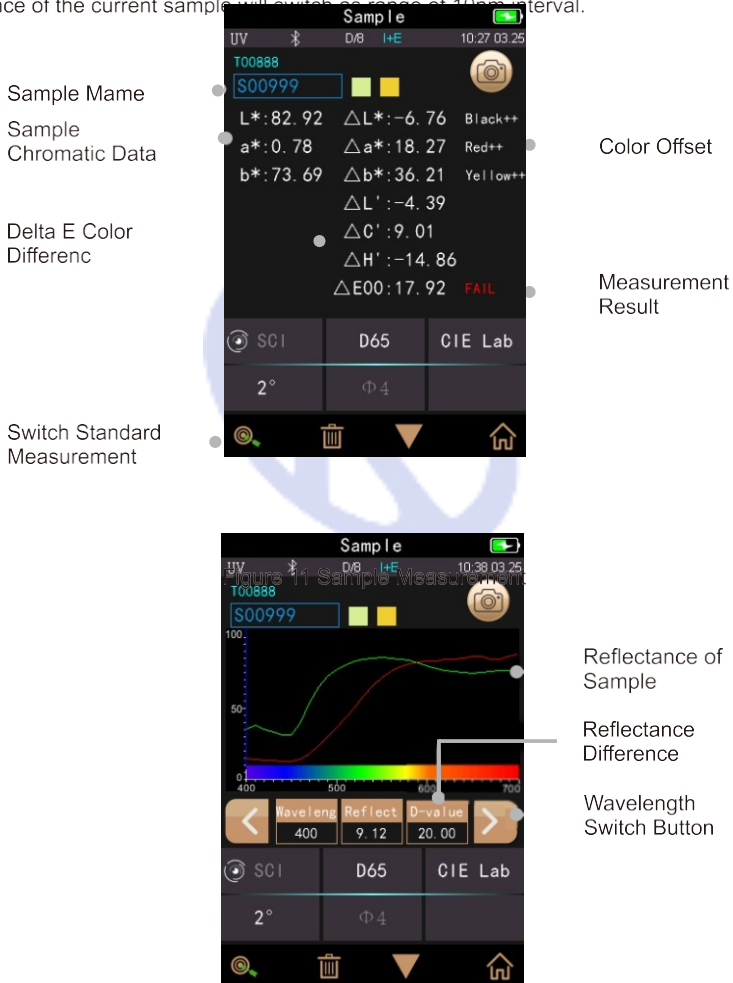

Figure 12 Reflectance of Sample Measurement
After testing the standard, click “Sample measurement” to enter Sample Measurement interface. It is the same steps with standard measurement. After measurement, it will display as shown in Figure 11 and in Figure 12.
- 9) Wavelength switch button: As shown in Figure 12, click or , the wave length and reflectance of the current sample will switch at a range of 10nm interval.